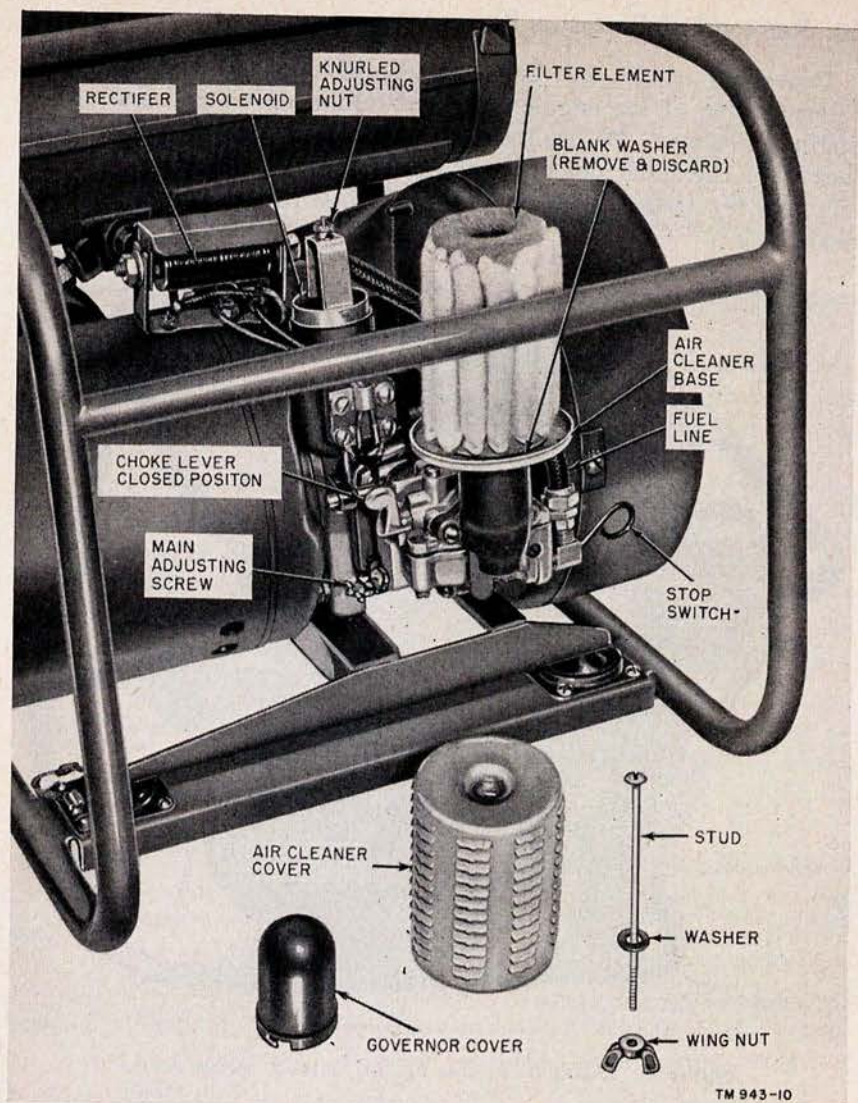

Figure 10. Air cleaner and governor, covers removed.
- a. Disassemble air cleaner and remove blank washer from the element (fig. 10).
a. **MANUAL CONTROLS.** The manual controls on the unit are the choke on the carburetor and the stopping switch on the magneto back-plate. These are described in section III (pars. 17 and 21) (figs. 10 and 11).
- b. Move the choke lever to the closed position (figs. 10 and 11). The lever pulls back toward the air cleaner in closed position.
To stop the engine, press the wire level extending from the magneto backplate (fig. 10) down until the engine comes to a complete stop. Always close the fuel shut-off valve and fuel tank air vent when the unit is not in operation.